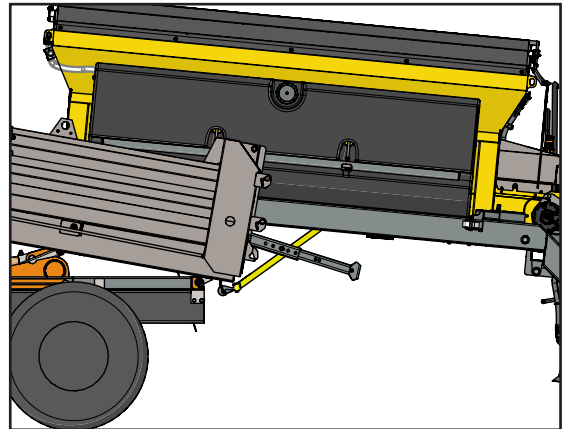

Figure 4
6. Figure 4 - Continue to back dump body underneath spreader until truck makes contact with spreader.